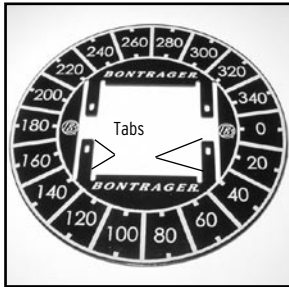
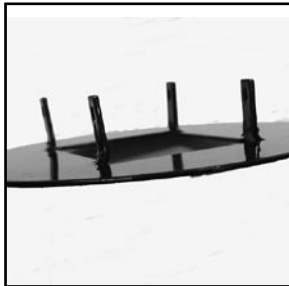

Fig. 2
Fig. 3
- Dial (Fig. 2)
1. Use a pliers to gently bend down the tabs of the dial (Fig. 2) to ninety degrees (Fig. 3).